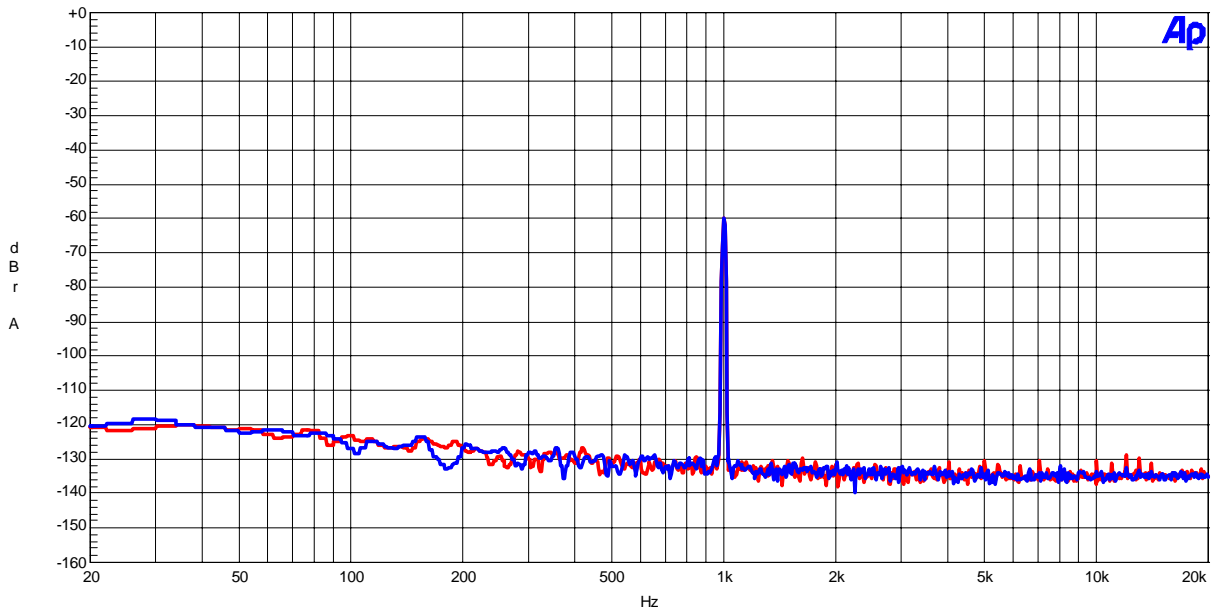

Figure 24 FFT (1kHz, -60dBFS input)
- Figure 24 FFT (1kHz, -60dBFS input)